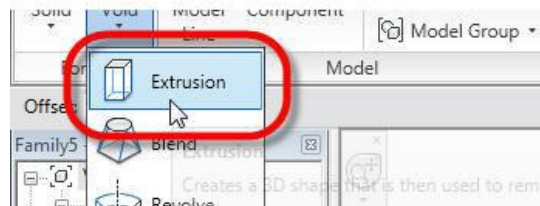

Figure 12. Beginning the opening void.
- Navigate to the Ref Level Floorplan View if you're not already there. From the Create ribbon, click the Void tool, then click Extrusion (see Figure 12).